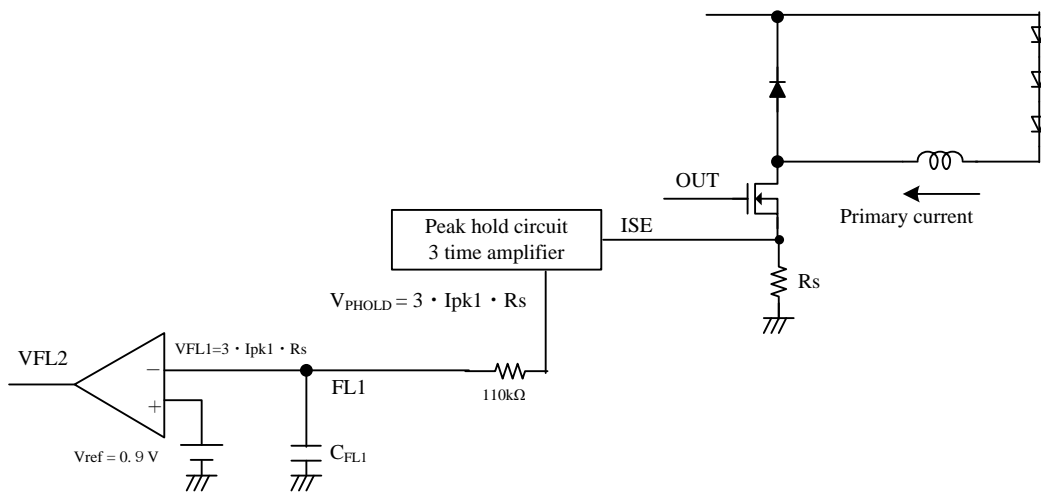

Figure 1.6 Step-down block diagram relation constant current operation
IC operation, how to control LED current (output current) to be a constant value, is explained as below. Figure 1.6 shows block diagram relating constant current operation. As V_{ISE} is proportional to primary current and sensing resistance R_s , ISE terminal can monitor primary current. V_{PHOLD} is the output of peak hold circuit. It outputs the peak value of V_{ISE} every switching cycle, shown by equation (7).